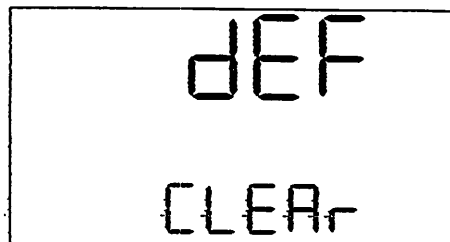

Figure 13. Factory Defaults Restored
4. Continue to hold the **TRIGGER** and the **BACKLIGHT** button until the **CLEAR** indicator is displayed as Figure 13 shows.